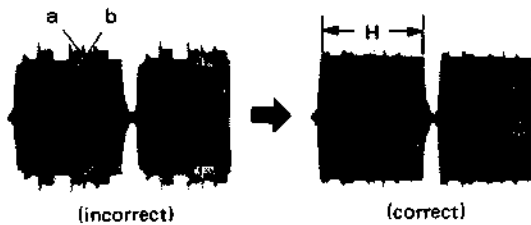

Fig. 5-28 REC input bell
2. Adjust L501 for minimum amplitude difference between (a) and (b) at TP-501 as shown Fig. 5-28.